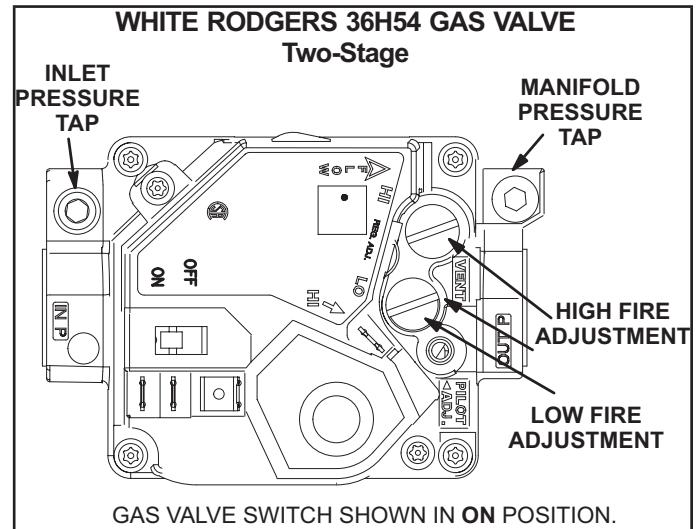
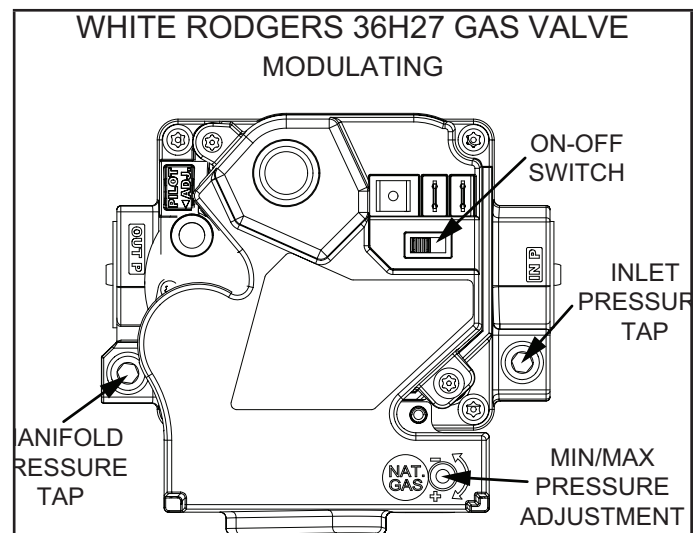

FIGURE 39
FIGURE 40
- 5 - Turn gas valve switch to **OFF**. See FIGURE 39 and FIGURE 40.
- 6 - Wait five (5) minutes to clear out any gas. If you then smell gas, **STOP!** Immediately call your gas supplier from a neighbor's phone. Follow the gas supplier's instructions. If you do not smell gas, go to the next step.
- 7 - Turn gas valve switch to **ON**. See FIGURE 39 and FIGURE 40.
For White Rodgers 36H54 and 36H27 valves (FIGURE 39 and FIGURE 40), supply pressure is accessed by removing 1/8" hex screw. Remove the 1/8" hex screw and install a 1/8" fitting with hose barb. Connect tubing from the barbed fitting and route to measuring device to measure supply pressure.
For White Rodgers 36H54 and 36H27 valves (FIGURE 39 and FIGURE 40), remove supply pressure barbed fitting and reinstall the 1/8" hex screw.
For White Rodgers 36H54 and 36H27 valves (FIGURE 39 and FIGURE 40) manifold pressure, remove the 1/8" hex screw, install 1/8" fitting with hose barb, connect hose from barb to "+" side of measuring device.
- 4 - If necessary, adjust manifold pressure. FIGURE 39 and FIGURE 40 show adjustment screw(s) locations.